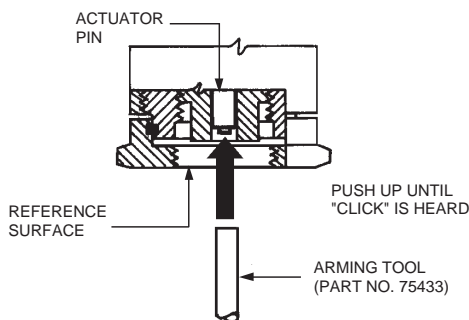

FIGURE 8
- To arm the actuator, use arming tool (Part No. 75433) to force the pin inside the reference surface until a distinct “click” is heard. (See Figure 8.) To verify that the actuator is properly armed, repeat step 3.